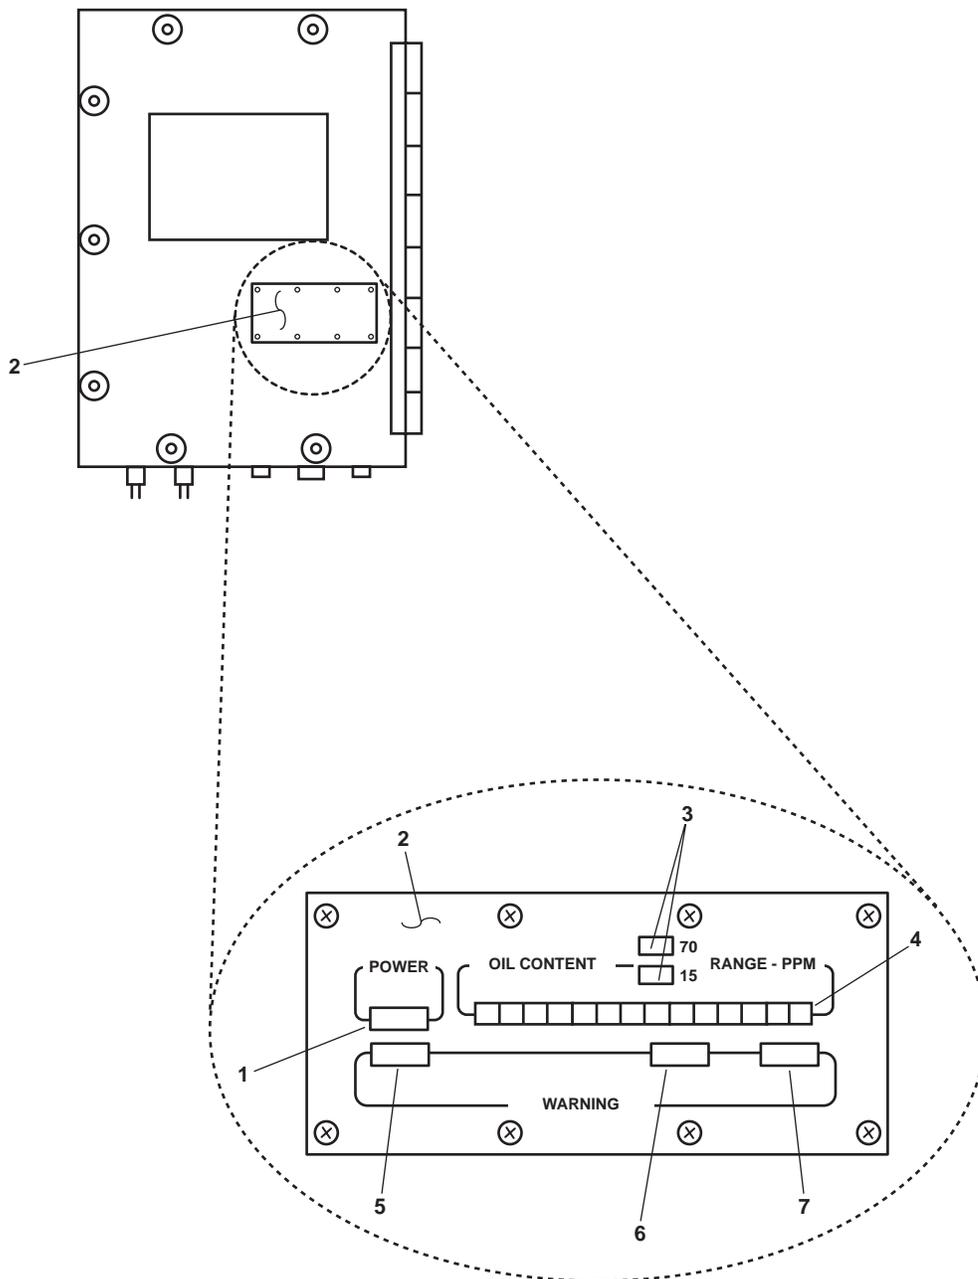

Figure 7. Sampling/Sensor Assembly Indicators
- a. The POWER indicator A1DS1 (figure 7, item 1) on the OCM display (figure 7, item 2) is illuminated.
- b. The RANGE-PPM indicator (figure 7, item 3) on the OCM display (figure 7, item 2) indicates the PPM Selected.
- c. The sampling/sensor assembly Light Emitting Diodes (LEDs) (figure 7, item 4) on the OCM display (figure 7, item 2) are illuminated.
- d. OCM WARNING 1 (figure 7, item 5) on the OCM display (figure 7, item 2) is not illuminated.
- e. OCM WARNING 2 (figure 7, item 6) on the OCM display (figure 7, item 2) is not illuminated.
- f. OCM WARNING 3 (figure 7, item 7) on the OCM display (figure 7, item 2) is not illuminated.